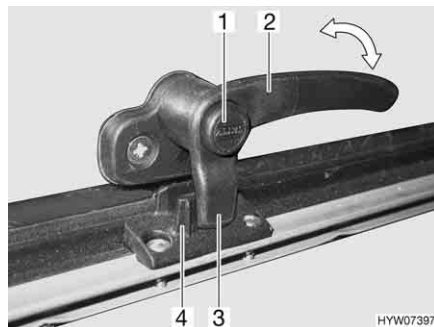
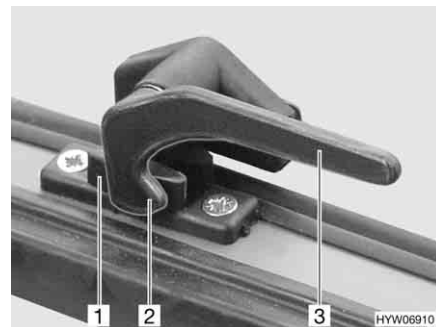

Fig. 86 Catch lever with safety knob in "closed" position
Fig. 87 Catch lever in "closed" position
Opening: ■ Press and hold the security button (Fig. 86,1), if present.
■ Turn all catch levers (Fig. 86,2 or Fig. 87,3) a quarter turn towards the centre of the skylight.
- Press and hold the security button (Fig. 86,1), if present.
- Turn all catch levers (Fig. 86,2 or Fig. 87,3) a quarter turn towards the frame. The locking catch (Fig. 86,3 or Fig. 87,2) is located on the inside of the skylight lock (Fig. 86,4 or Fig. 87,1).
- "Firmly closed" (Fig. 86 and Fig. 87)